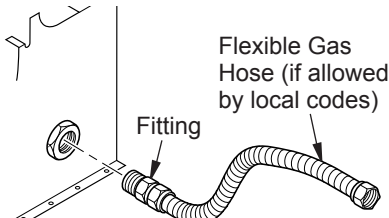

Figure 11 - Attaching Flexible Gas Hose to Heater
1. Connect approved flexible gas hose to gas control fitting in heater (see Figure 11, page 13).